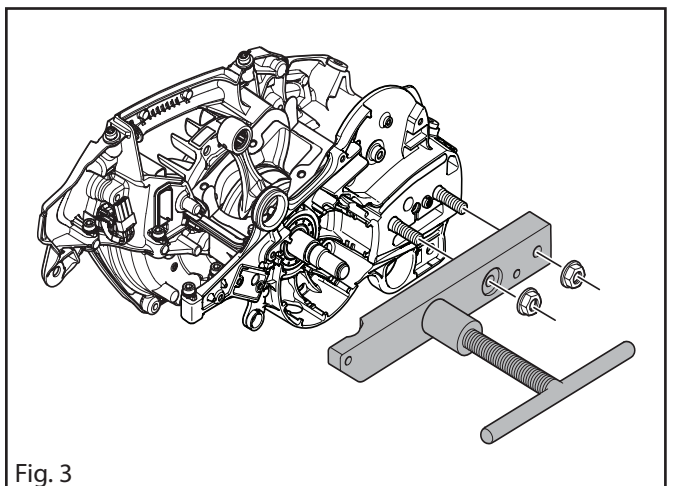

Fig. 3
4. Remove the crankcase half on the clutch side using the Crankcase splitting tool (clutch side). See figure 3. For instruction, see [https://youtu.be/JAV IE\\_c79k](https://youtu.be/JAV IE_c79k)